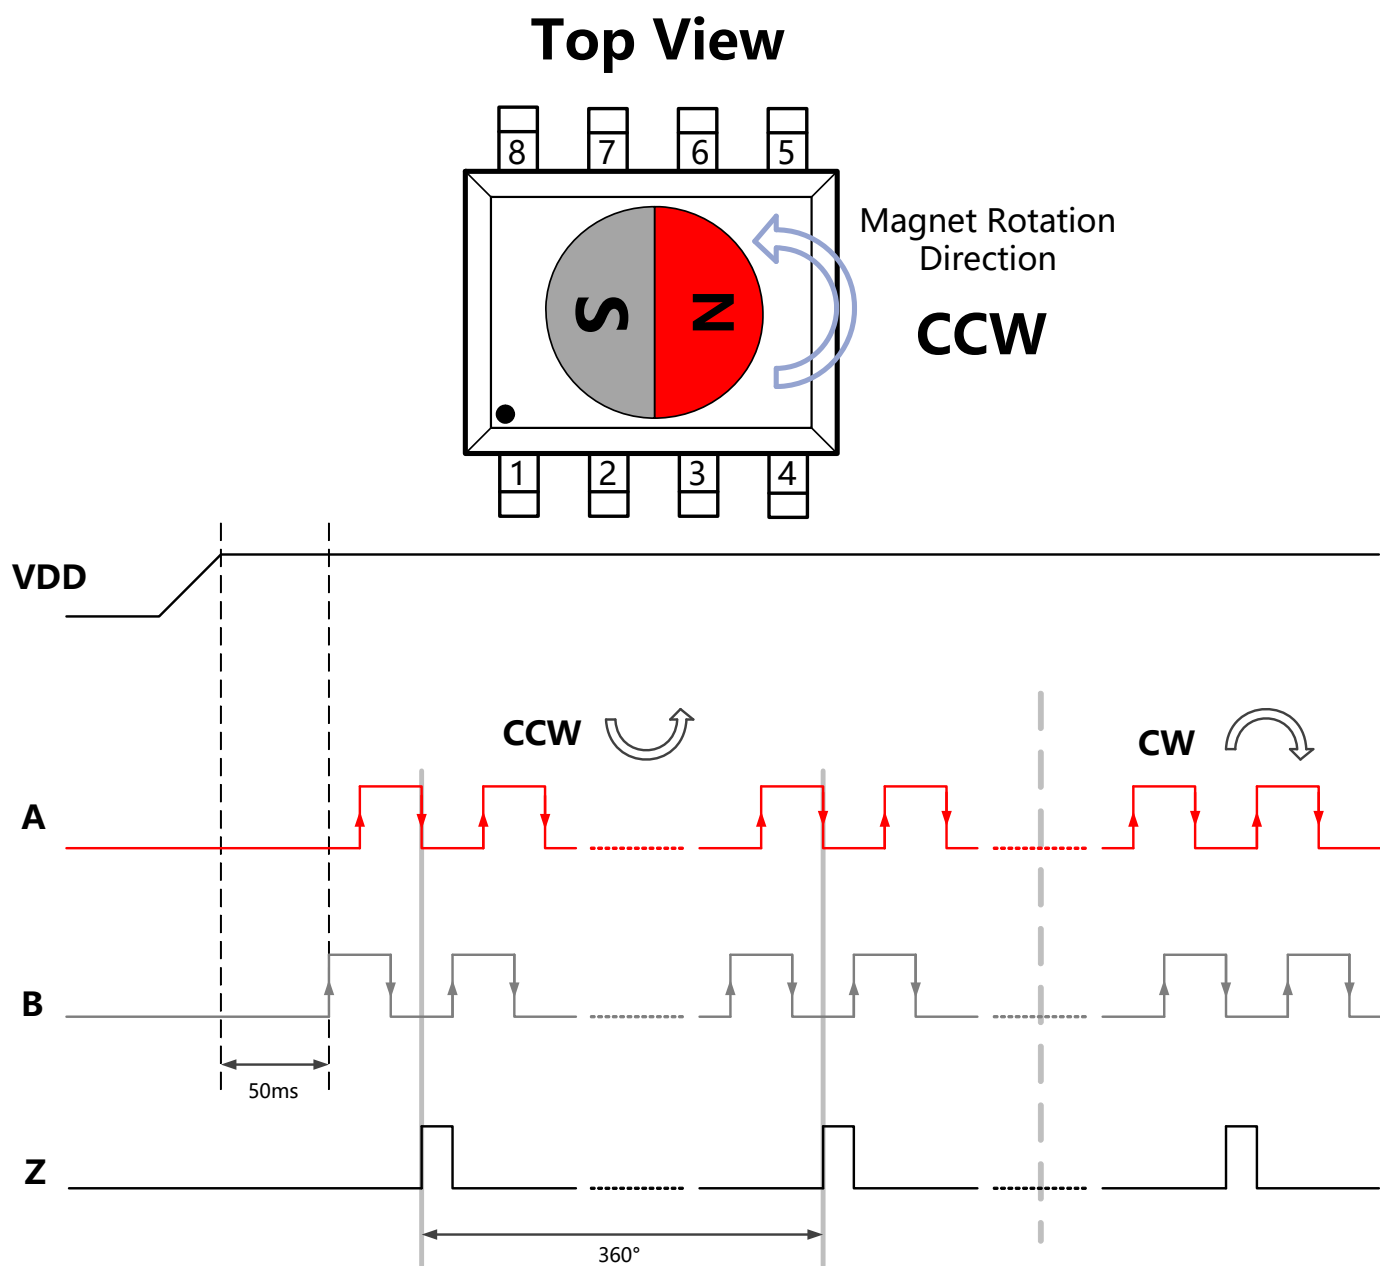

Figure 8: ABZ output with VDD Power-on
As shown in Figure 8, when the magnet rotates counter-clock-wise (CCW), output B leads output A by 1/4 cycle, when the magnet rotates clock-wise (CW), output A leads output B by 1/4 cycle (or 1 LSB). Output Z indicates the zero position of the magnet.